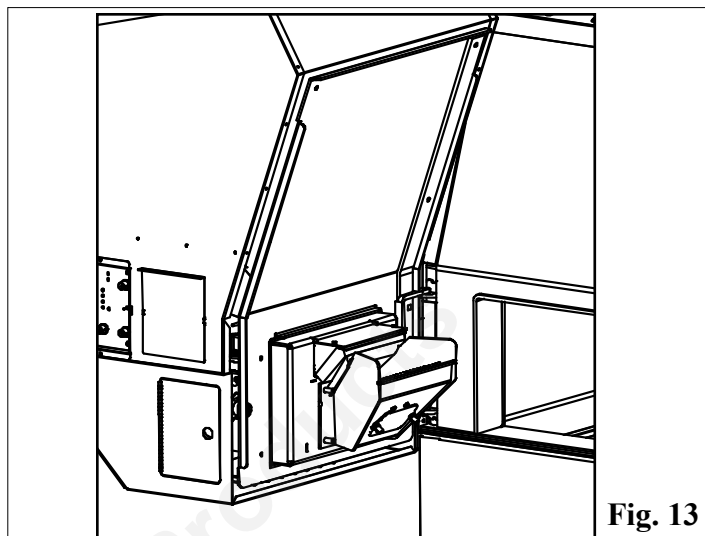

Fig. 13
7. Open hopper swing plate as shown in Fig. 13 (See “NOTE” on page 26.)